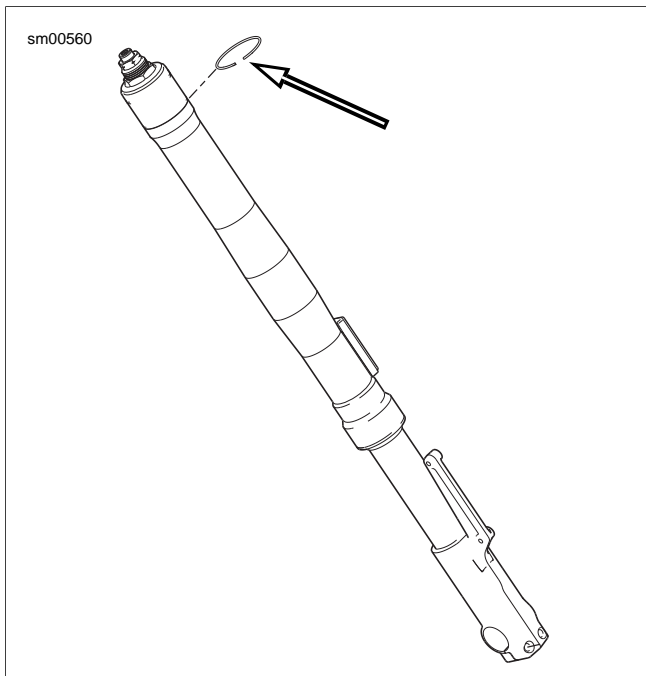

Figure 2-88. Stopper Ring
5. See Figure 2-88. Remove fork from upper fork clamp and slide the stopper ring up and over the top of the fork.